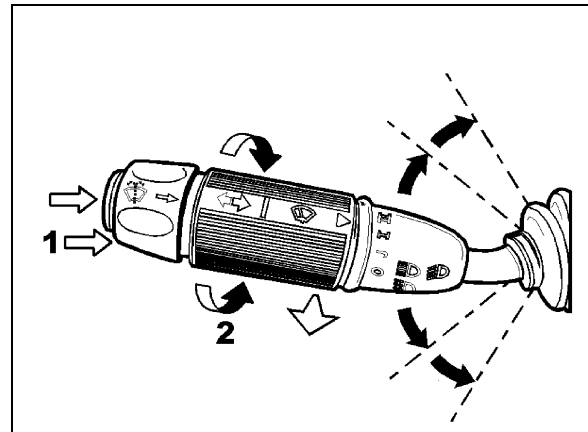

FIGURE 35: MULTIFUNCTION LEVER 23133
Turn the multifunction lever forward to activate windshield wipers (item 2, Figure 35). The first position operates the wipers at low speed and the second position operates the wipers at high
The windshield washer pumps are electrically operated and are controlled by a washer control ring on the multifunction lever (item 1, Figure 35).